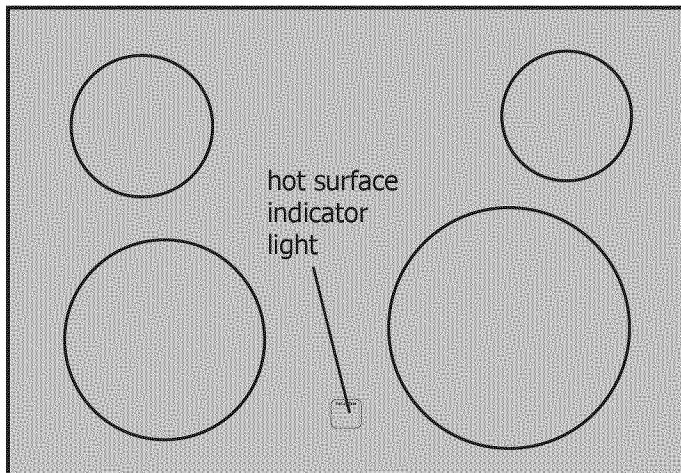
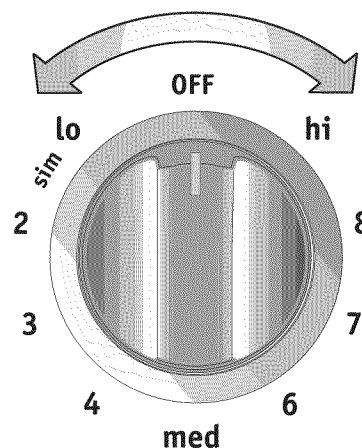

Figure 2 - Model B only
Figure 1 -Control knob shown is typical only.
The **hot surface** indicator light located on the cooktop (Figure 2) will glow when any surface cooking area heats up and will remain on until the glass cooktop has cooled to a MODERATE level.
2. Push in and turn the surface control knob in either direction to the desired setting (Figure 1).
The oven of the model A is vented **through the right rear coil element** (Figure 1) and the oven of the model B is vented **Through the front panel** and visible when the oven door is open (Figure 2). When the oven is on, warm air is released through the vent. This venting is necessary for proper air circulation in the oven and good baking results. **DO NOT** block the vent. Doing so may cause cooking failures, fire or damage to the appliance.
(Figure 1)